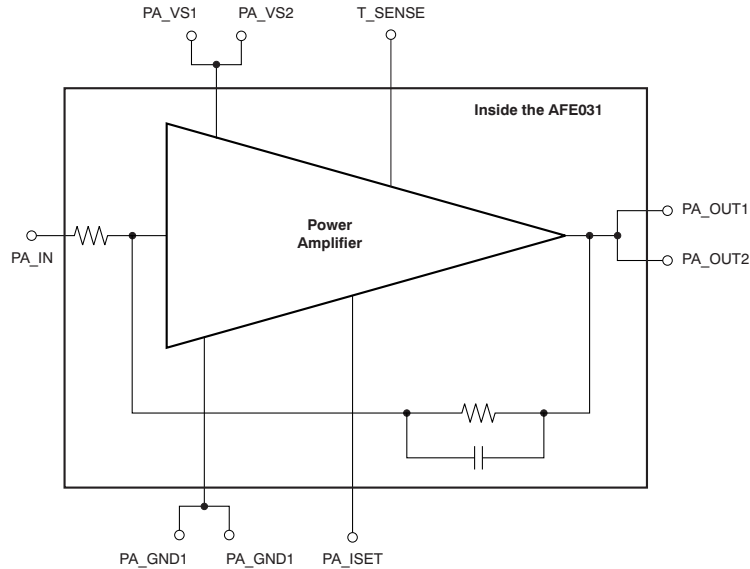

Figure 25. PA Block Equivalent Circuit
The Power Amplifier (PA) block consists of a high slew rate, high-voltage, and high-current operational amplifier. The PA is configured with an inverting gain of 6.5 V/V, has a low-pass filter response, and maintains excellent linearity and low distortion. The PA is specified to operate from 7 V to 24 V and can deliver up to  $\pm 1.5$  A of continuous output current over the specified junction temperature range of  $-40^{\circ}\text{C}$  to  $+125^{\circ}\text{C}$ . Figure 25 illustrates the PA block.